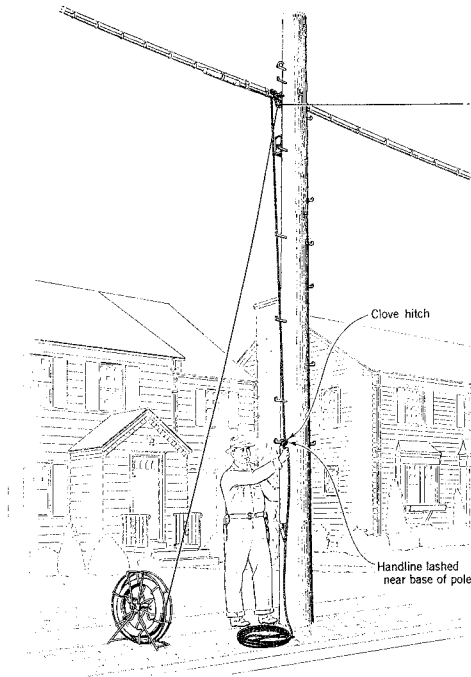

Fig. 4 — Drop Wire Raised to Approximate Height
(8) After the drop wire has been raised to the approximate required height, lash the handline near the base of the pole or, at a span clamp, to the lower rungs of the ladder (see Fig. 4).